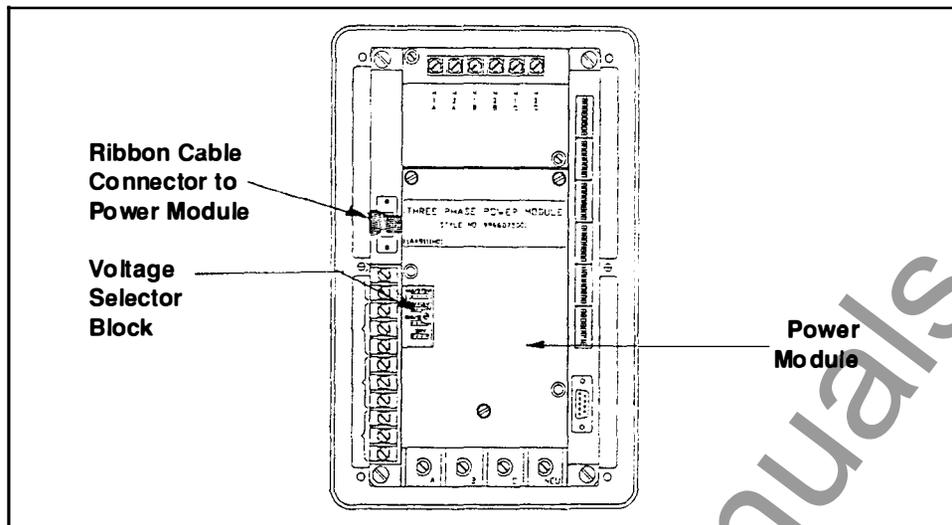

Figure 4.3 — Voltage Selector Jumper
4.1.4 Voltage Selector Jumper — It is necessary to match the placement of the Voltage Selector Jumper with the incoming AC line voltage, measured line-to-line. (See Figure 4.3.)
These ranges are indicated on the Power Module, as shown in Figure 4.3. Consult the wiring plan drawings made up by the user or OEM to determine the intended line voltage. Change the Selector Jumper to the Line Voltage when not using potential transformers. When using potential transformers with a 120 volt (or 110 volt) secondary, the Selector Jumper should be positioned for 96-154 volt range.